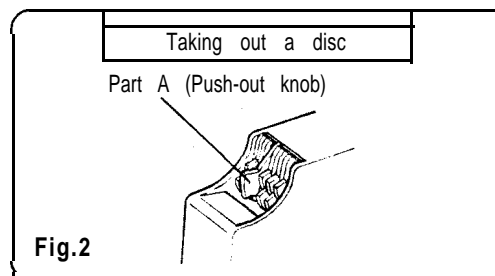

Fig.2
- 2 1. When a disc is inserted into the magazine, the push out knob for that slot will be raised (fig.2).
2. Press down on the push-out knob (fig.2).